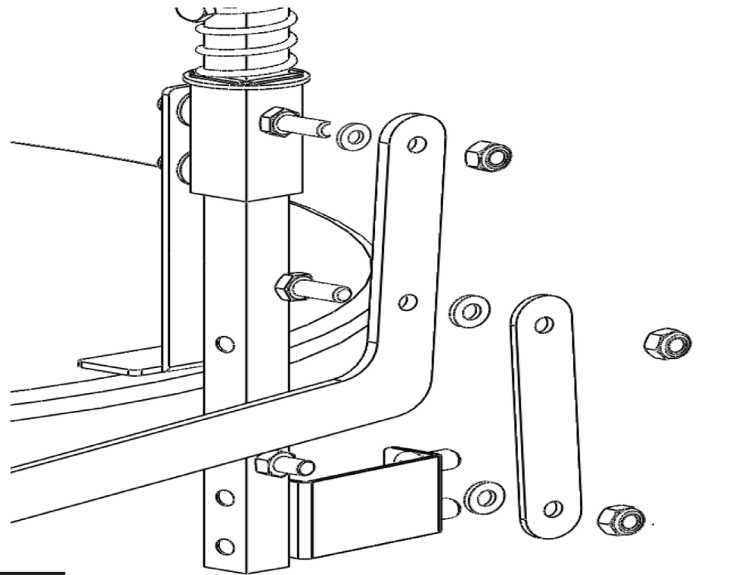

FIG. 4.10
10. Secure the lever handle and linkage plate on the lock handle guides with (3) plastic washer $\phi 10 \times \phi 21 \times 1.6t$ and (3) lock nut 5/16. (Fig. 4.10)